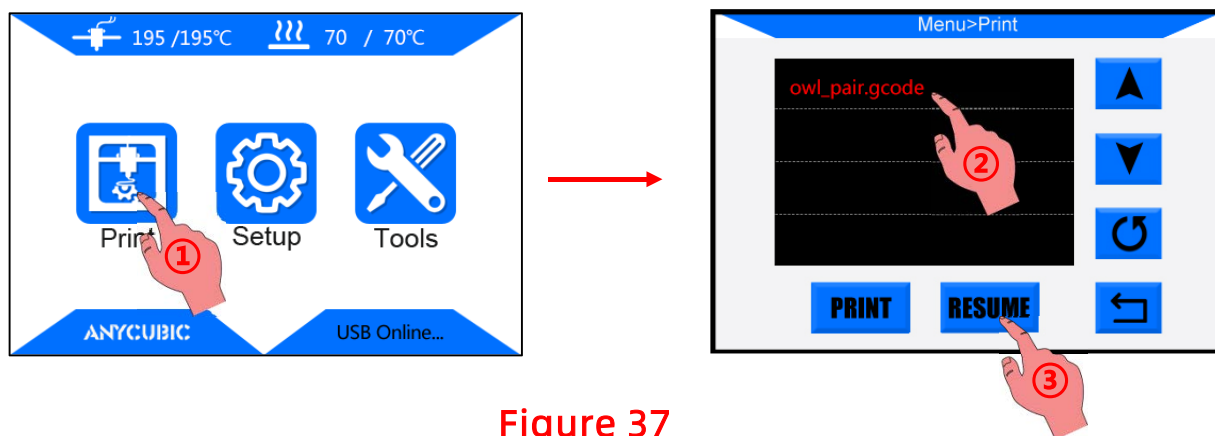

Figure 37
3. During printing, if there is an accident power loss, the print will stop immediately. But after power comes back, customers could choose "Print" → select the unfinished file → "RESUME"(Fig.37), machine will home first and continuing on the unfinished object.